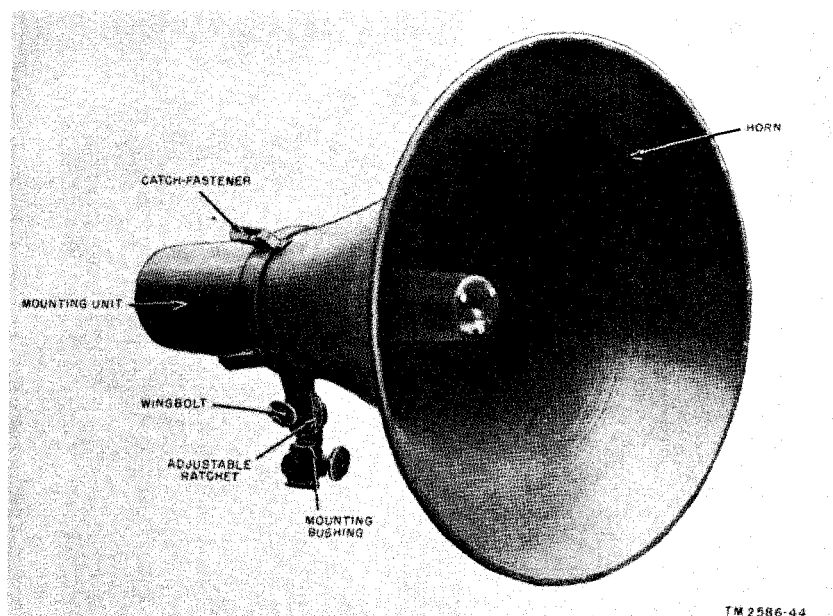
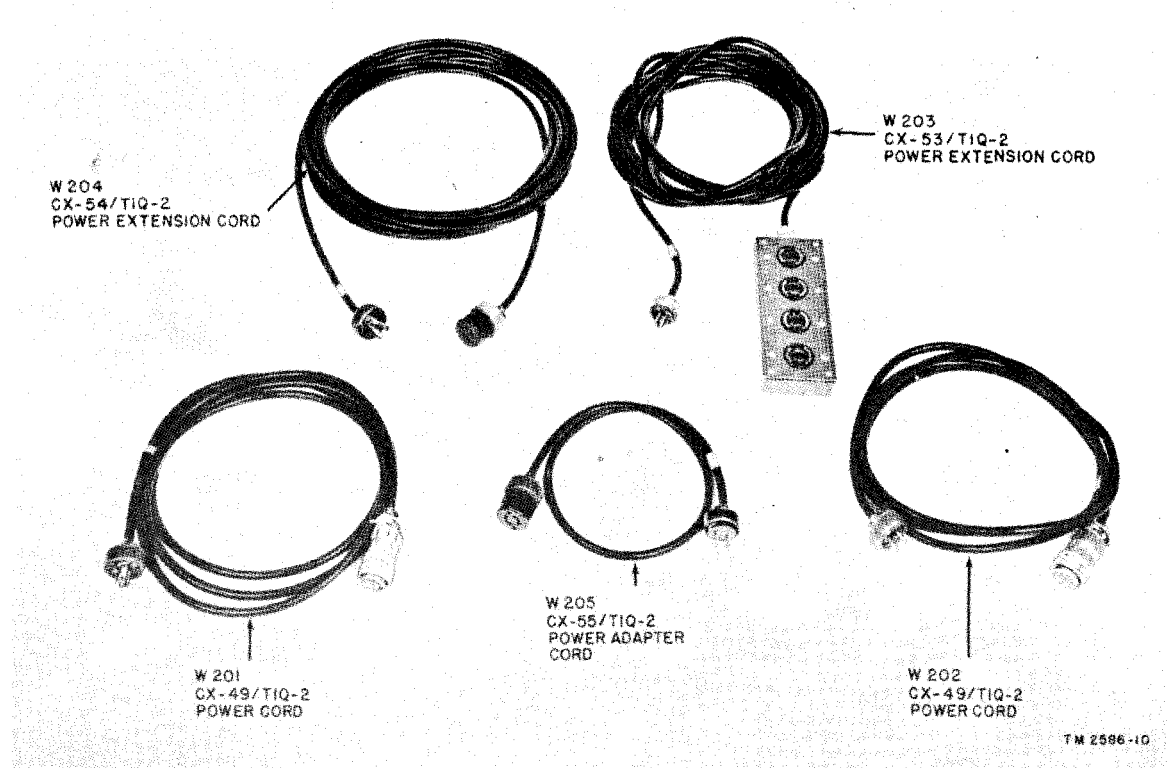
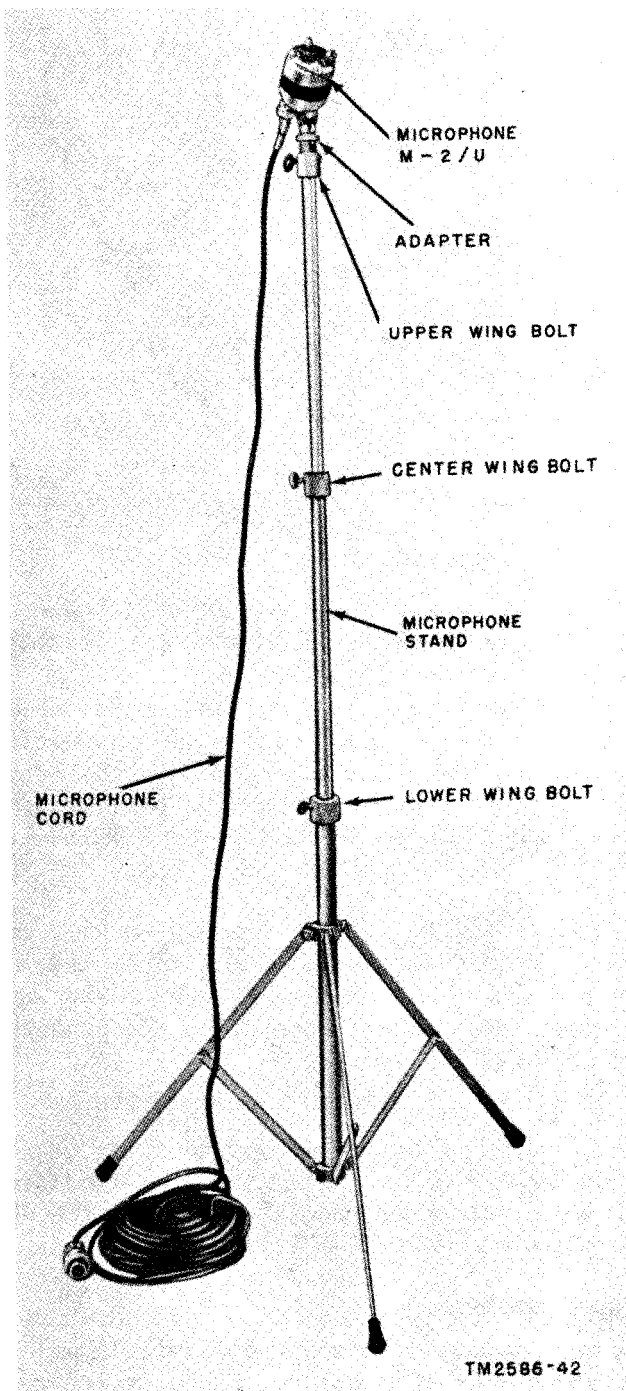
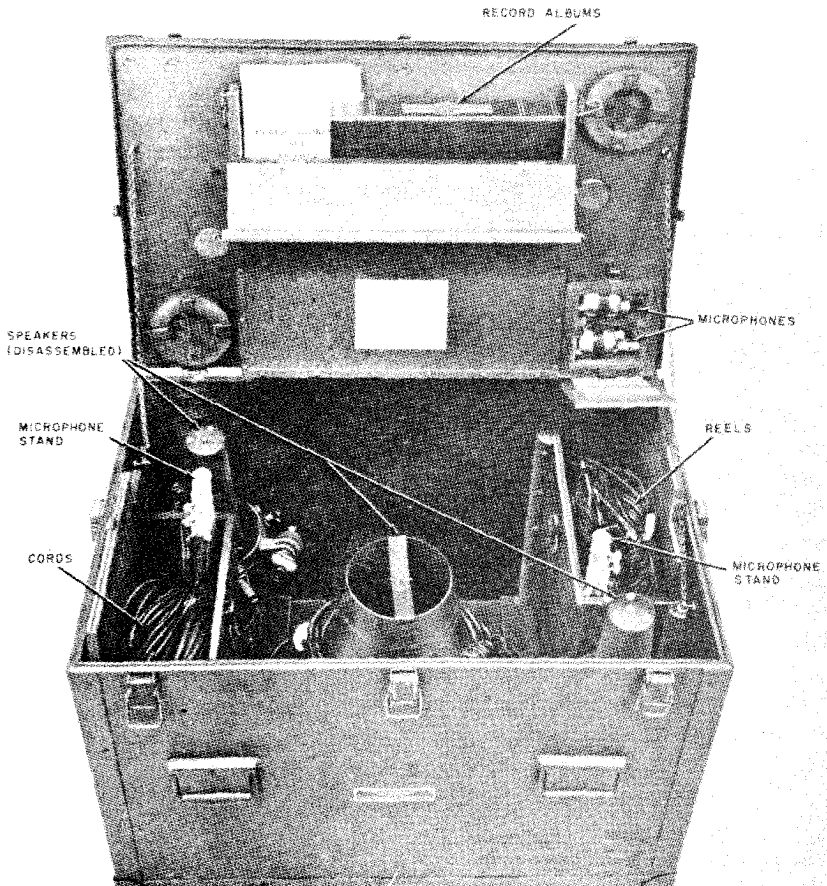

Figure 6. Loudspeaker LS-103 (*)/TIQ-2
Figure 7. Power cords, power extension cords, and power adapter cord.
Figure 10. Microphone M-2/U mounted on stand
Figure 11. Speaker case, Case CY-37A/TIQ-2 and contents.
*c. Loudspeaker LS-103(*)/TIQ-2.* The speakers (fig. 6) are inclosed in the speaker case (fig. 11). Each speaker consists of a speaker
d. *Cords.* The 11 rubber-covered cords are stored in the speaker case (fig. 11). There are five power cords, two microphone cords, and two microphone extension cords, one turntable pickup cord, and one headset extension cord. Each cord has a bend which is stamped with a number as shown in figures 7, 8, and 9. Power extension cord (W203) is terminated at one end in a four-receptacle junction box.
f. Microphone M-2/U. Two microphones are stored in the speaker case (fig. 11). They are aluminum-finished and may be painted olive drab. Each microphone can be mounted on a stand (fig. 10) and has a receptacle for the microphone cord.
k. Case CY-37(*)/TIQ-2. The speaker case (fig. 11) contains the speakers, microphones, microphone stands, record albums, and the interconnecting cables. It may also contain the spare parts.
(1) Turntable MX-39A/TIQ-2, procured on some orders, is equipped with a spring-clip device, which serves as a rest for the pickup arm. Turntables procured on other orders are equipped with a slotted clamp and a clamping screw that secures the pickup arm.
(2) A MOTOR switch is provided on some turntables.
c. Speaker Case. The speaker case may be either Case CY-37/TIQ-2 or Case CY-37A./TIQ-2. The microphone stands are carried in a compartment on the underside of the lid of Case CY-37/TIQ-2 and in compartments in Case CY37A/TIQ-2 (fig. 11).
- (4) Unlatch the pick-up arm. Check to see that the arm moves freely from side to side without binding. Replace the pickup arm.
- (5) Replace the cover and fasten the four catch-fasteners.
c. To check the components in the speaker case (fig. 11), proceed as follows :
- (1) Unlatch the five catch-fasteners that hold the cover. Fold back the cover on its hinges. Remove all cushioning material.
- (2) Check to see that there are two microphone stands.
- (3) Check to see that all cords are in their compartments.
- (4) Check to see that there are two microphones.
- (5) Check to see that there are two speaker horns and two mounting units.
- (6) Check to see that there are two technical manuals.
- (7) If a spare parts case is not provided, check to see that the spare parts are located in the speaker case.
- (8) Replace the cover and fasten the five catch-fasteners.